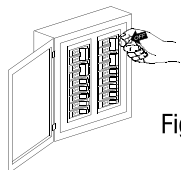

Figure 2
1. Before removing grill, turn the electrical power OFF. See Figure 2. Circuit breakers are often not marked correctly and turning the wrong breaker off could mean electricity is flowing to the heater, even if the heater does not appear to be working. If you are uncomfortable working with electrical appliances, unable to follow these guidelines, or do not have the necessary equipment, consult a qualified electrician. Once you verify the power is off completely, proceed to the next step.